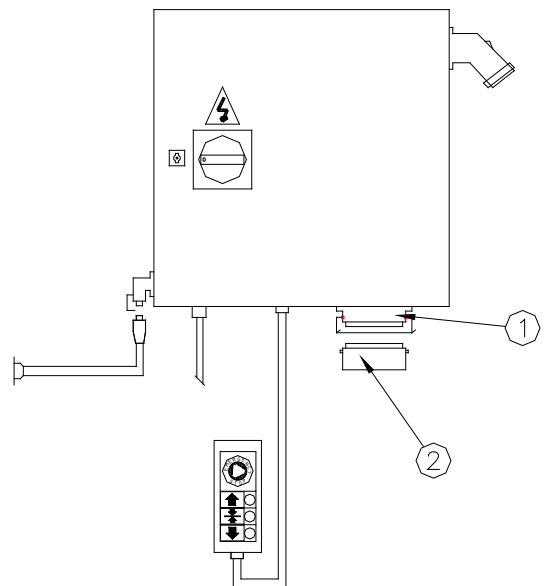

Fig.H.34 Electrical box on ground frame
58. Connect the plug at the end of the cable of the landing call unit in the socket on the electrical box on ground frame (1-fig.H.34), after the by-pass plug (2-fig.H.34), in this socket is removed. Without the blind plug, inserted in the electrical box, the electric equipment circuit is “cut off”, which means that the platform will not operate before this plug is connected again.